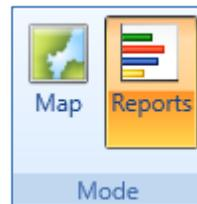

Figure 5-50 Metric Results Tab – Mode Ribbon Group
1. Click the *Reports* button in the *Mode* ribbon group (Figure 5-50).